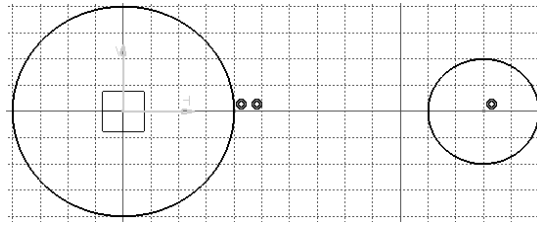

Figure 3-52 The sketch after drawing the second circle
6. Move the cursor toward the right and specify the point on the circle when the radius displays **20** in the **R** edit box of the **Sketch tools** toolbar. The sketch, after drawing the second circle, is shown in Figure 3-52.